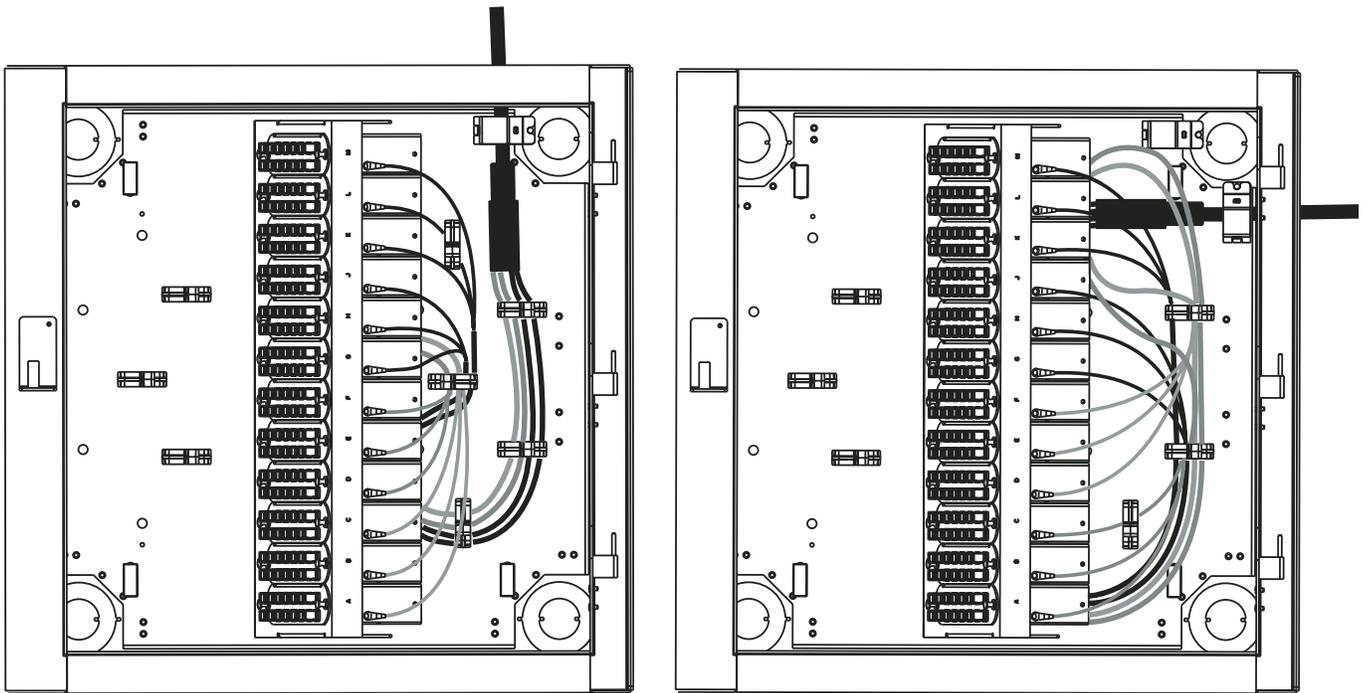

Figure 10
9.5 When installing Plug & Play™ cable, remove routing clips as needed from the removable tray and route to modules as shown in Figure 10.